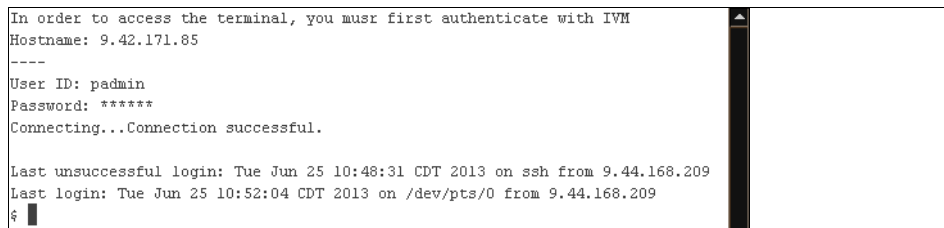

Figure 7-151 IVM virtual terminal to the VIOS
4. The terminal session authenticates with IVM and logs you in to the VIOS command line, as shown in Figure 7-151.